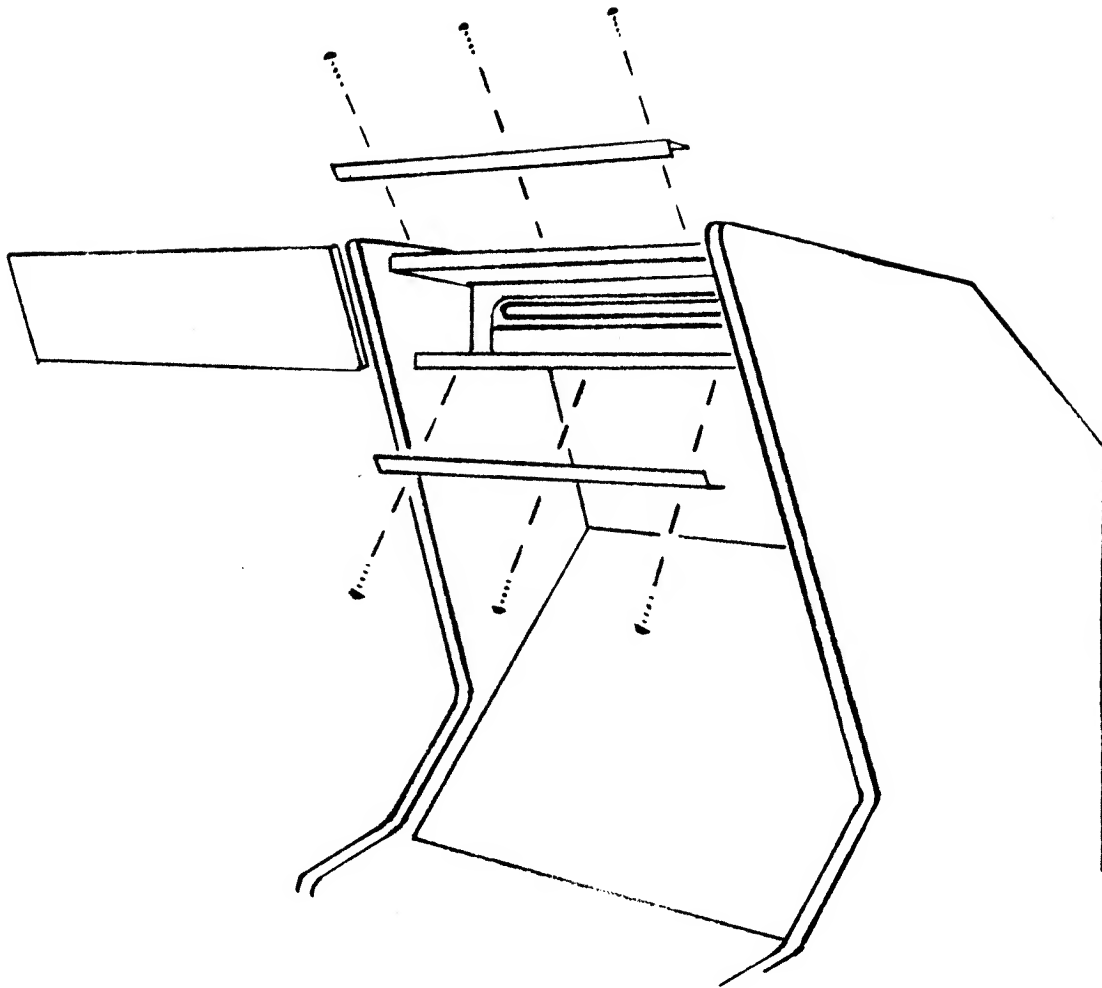

FIGURE 7
9) Remove the protective plastic covering from the marquee plexi. Now remove the paper backing from the self-adhesive decal. Attach the decal to the plexi and trim the excess with a sharp knife or razor blade. Install the marquee on the cabinet as shown in Figure 7.